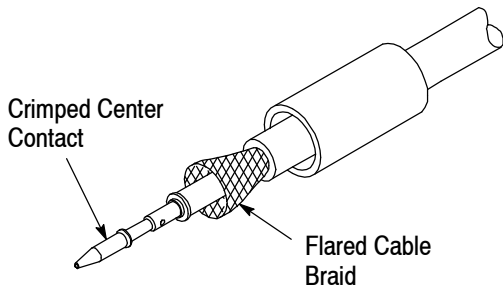

Figure 4
2. Insert center conductor into center contact. The center contact shoulder must be positioned against the cable dielectric, as shown in Figure 4. Be sure the cable insulation does not enter the center contact wire barrel.
4. Flare cable braid to allow the support sleeve of the plug body to pass under the cable braid. Refer to Figure 4.